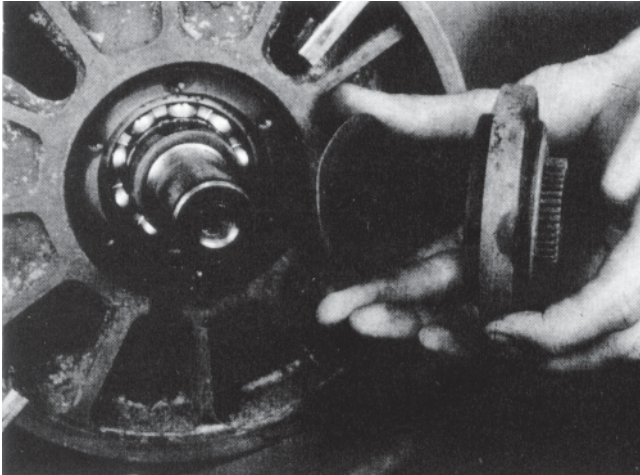

Figure 32 –Removing Rotor Gear Plate
10. Turn the rotor over and remove the rotor gear plate, Figure 32.